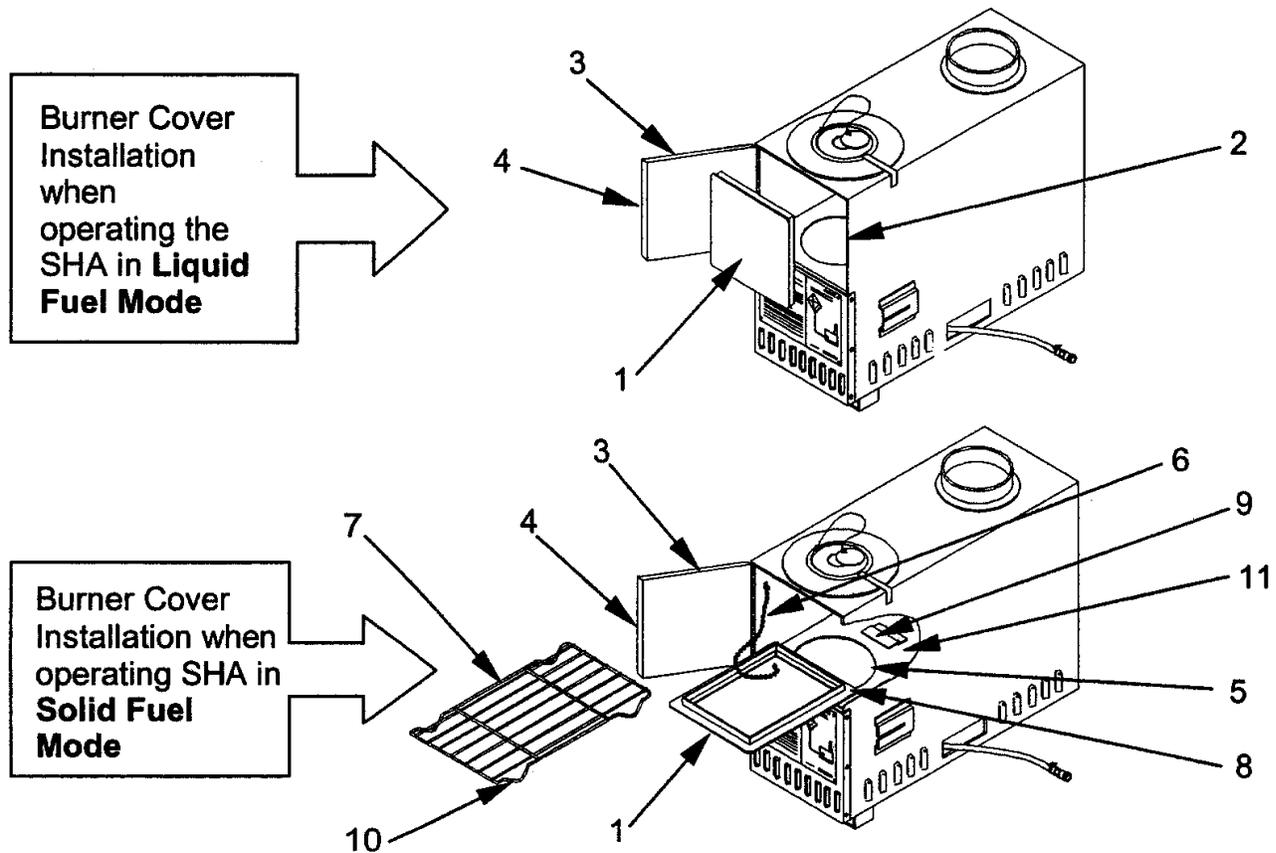

Figure 3
B. Installing The Burner Cover Assembly And Solid Fuel Grate- Before the SHA can be operated, the Burner Cover Assembly (1) must be installed according to the type of fuel being used.
1. For Liquid Fuels, (See Figure 3)
2. For Solid Fuels, (See Figure 3)